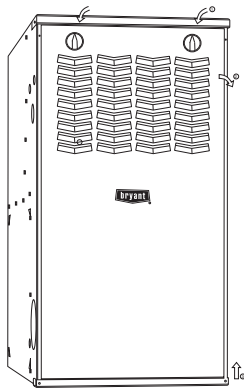

Fig. 6 – Remove Furnace Door
4. Remove the outer door by loosening the thumbscrew and pulling the door forward, see Fig. 6.
4. Remove outer furnace door, see Fig. 6.